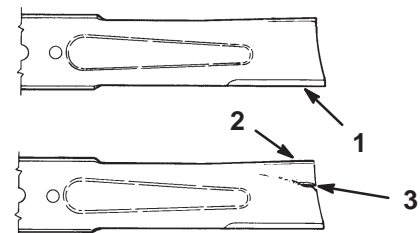

Figure 19
- Inspect the cutting edges (Fig. 19). If the edges are not sharp or have nicks, remove and sharpen the blades; refer to Sharpening the Blades, page 24.
- Inspect the blades, especially the curved area (Fig. 19). If you notice any damage, wear, or a slot forming in this area (item 3 in Fig. 19), immediately install a new blade.